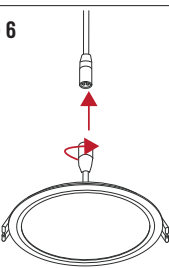

Figure 7
8. Secure the NEC clip on the remote driver to the springs clips on the fixture. (Figure 7)